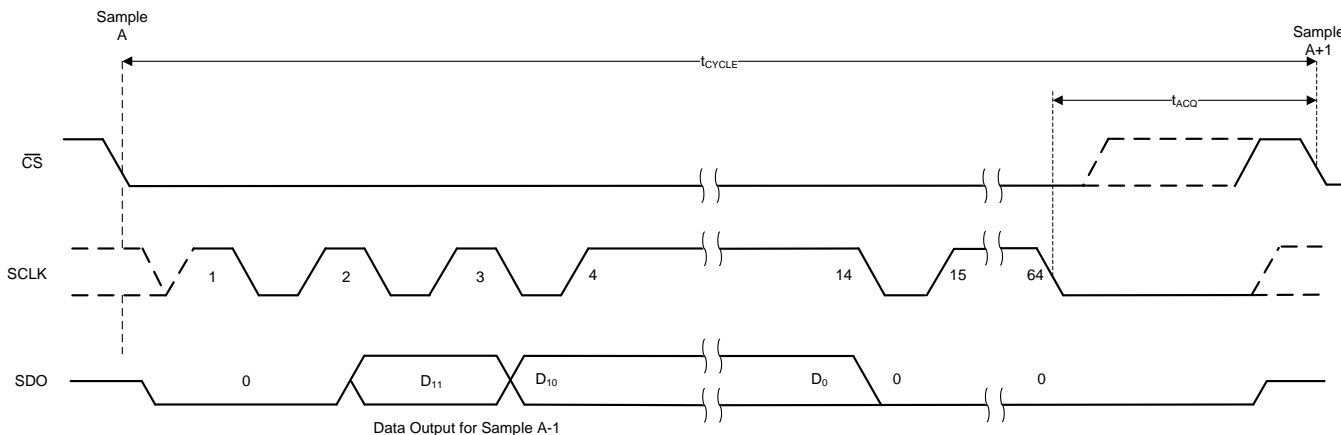

Figure 39. Timing for Offset Calibration During Normal Operation
The host controller must provide a serial transfer frame as described in Figure 38 or in Figure 39 to enter the OFFCAL state.
If the host controller provides more than 15 SCLKs but pulls the  $\overline{CS}$  high before providing 64 SCLKs, then the offset calibration process is aborted and the device enters the ACQ state. Figure 39 and Table 4 provide the timing for offset calibration during normal operation.
(1) In addition to the timing specifications of Figure 39 and Table 4, the timing specifications described in Figure 2 and the Timing Requirements table are also applicable for offset calibration during normal operation.